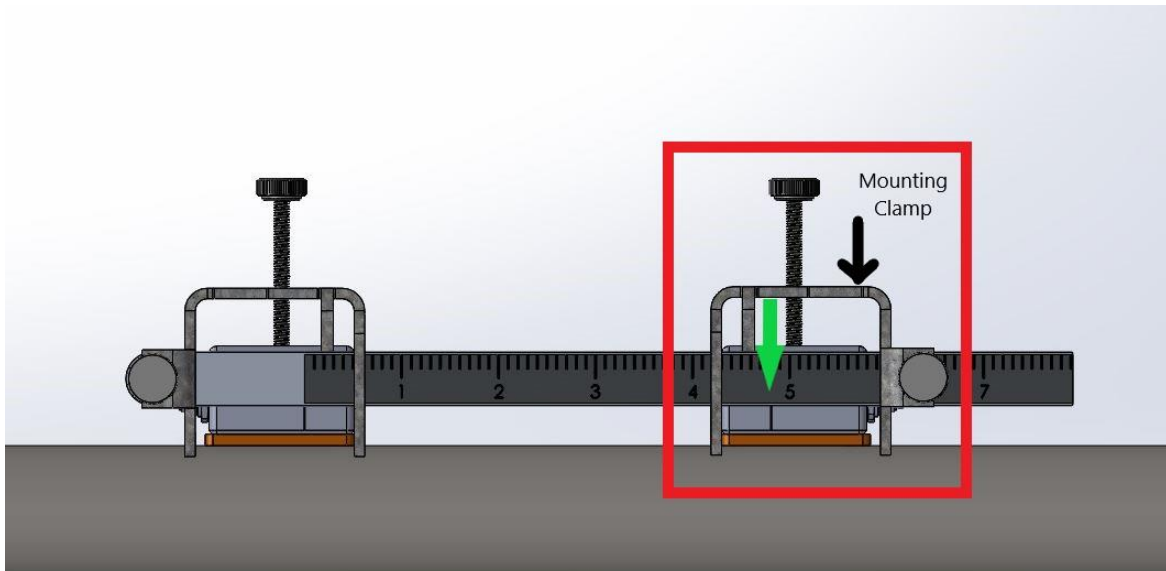

Figure 2-11. Spacing Locating Point on Small Rail/Fixture System*
4. Loosen the set screw on the rightmost transducer mounting clamp and using the scale attached to the front rail, slide the clamp so that the middle of the bracket is close to the location determined by the flow meter. See Figure 2-11 for reference. Slightly tighten the set screw that was loosened in the previous step so that the clamp does not being moving when the transducer is placed inside. **Note:** the leftmost mounting clamp does not need to be moved as it is already in the correct position.
7. Place the transducers in the left and right mounting bracket of the rail/ fixture system. Once the rightmost transducer is fitted, move the clamp so that the scribe line on the transducer is placed at the flow meter's determined location. Refer to the green arrow in Figure 2-11 for this locating point. Tighten the set screw completely. **Note:** the transducer in the left mounting bracket does not need to be moved as the scribe line is already aligned with the scale zero.